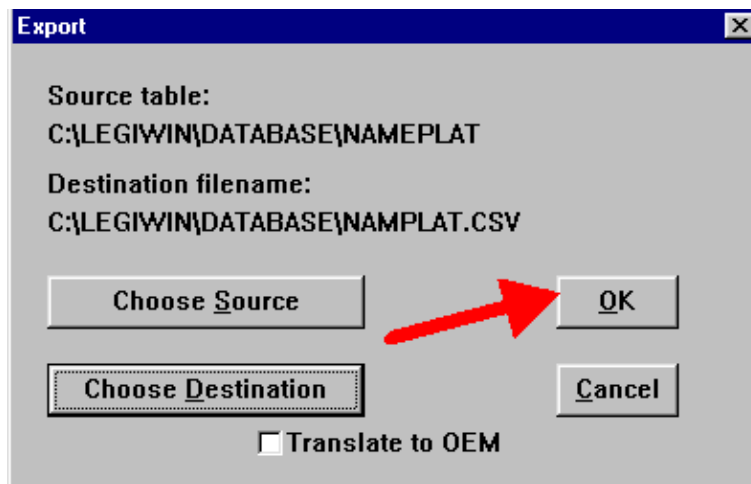

Figure 5-7
5.2.14. Click [OK]. (Figure 5-7)